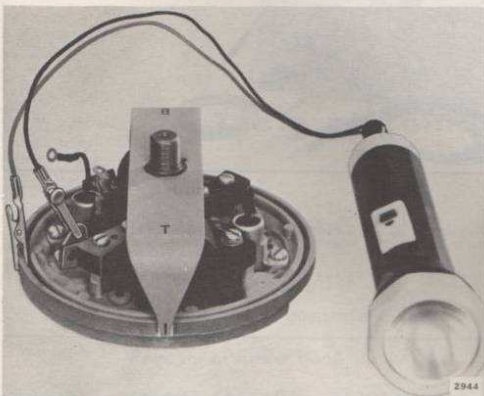

Figure 4-19. Connections for Checking Timing
b. Disconnect all leads from breaker point assemblies. Connect meter or test light between breaker plate and forward breaker point screw terminal. See Figure 4-19. Fully advance throttle lever to Fast position.
c. Place timing fixture (Special Tool #383603) on crankshaft. Rotate the crankshaft clockwise so that the side of the fixture marked "T" (top) is aligned with the first projection on the armature plate. See Figure 4-19.